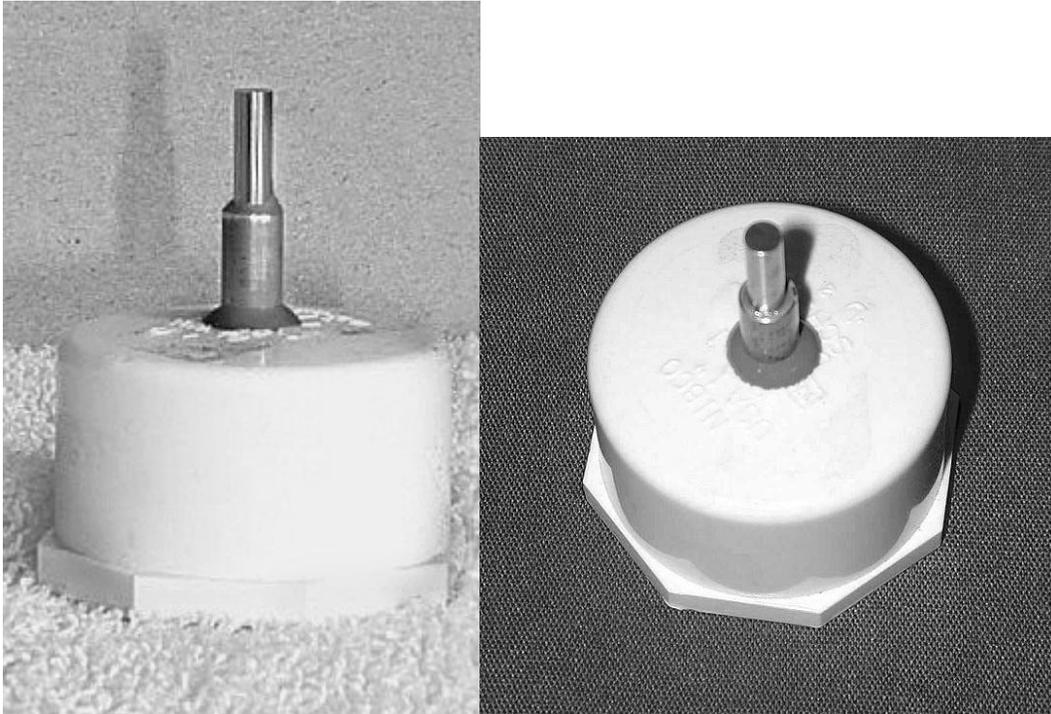

Figure 2 - Plastic cap with gage pin and drill collar sticking out, all epoxied together (gray)
4. When you have it put together and the epoxy is still wet, put it on a flat surface and slide the gage pin down until it bottoms out where the plastic cap sits on the flat surface. It will look something like Figure 2, below, when done. Make sure the gage pin doesn't dry at an angle (it should be parallel to the iron pipe, keep checking visually as it dries). If the pin isn't sticking straight out of the cap, your drop tester will not work properly.